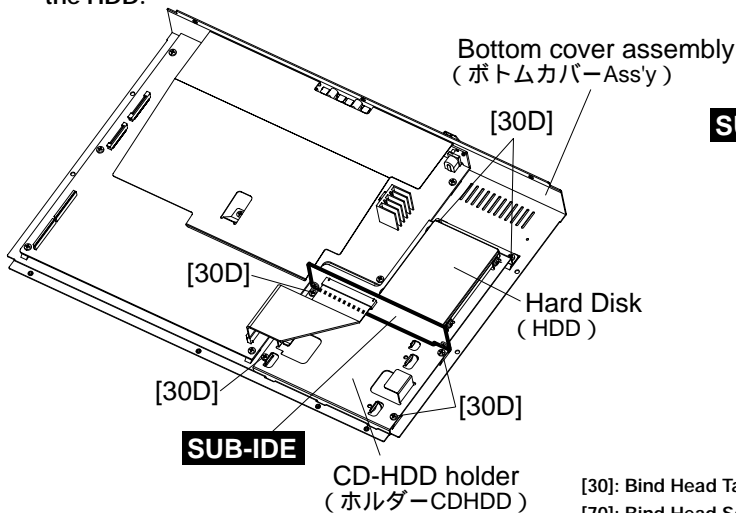

Fig.3(図3)
- 3-2 Remove the six (6) screws marked [30D]. The CD-HDD holder can then be removed with the HDD and the SUB-IDE circuit board. (Fig.3)
- 3-2 [30D]のネジ6本を外して、HDD、SUB-IDEシートと共にホルダー CDHDD を外します。(図3)